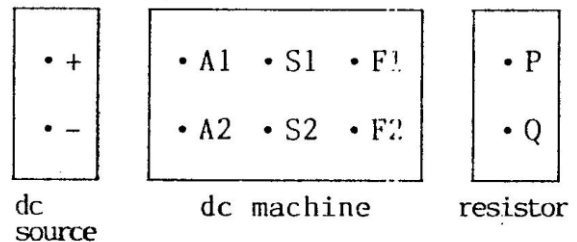

Fig. 4.10 Question 4.7
**4.7** Fig. 4.10 shows the terminal box of a dc machine, together with the terminals of a dc source and a resistor. Insert connections for each of the following cases: